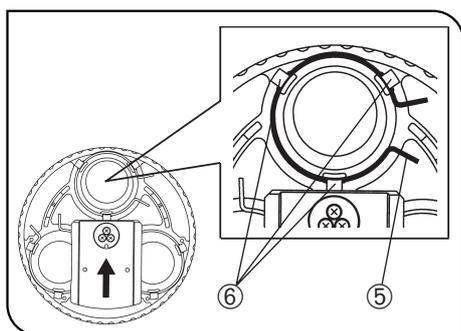

Fig. 8
1. Loosen the turret clamping screw ③ using the Allen screwdriver, and pull out the turret ④.
2. Place the turret upside down and remove the filter clamping ring ⑤ by pushing its knob section.
3. Place the required filters and set the clamping ring ⑤ to the original position by engaging it with three hooks ⑥. (Fig. 8)